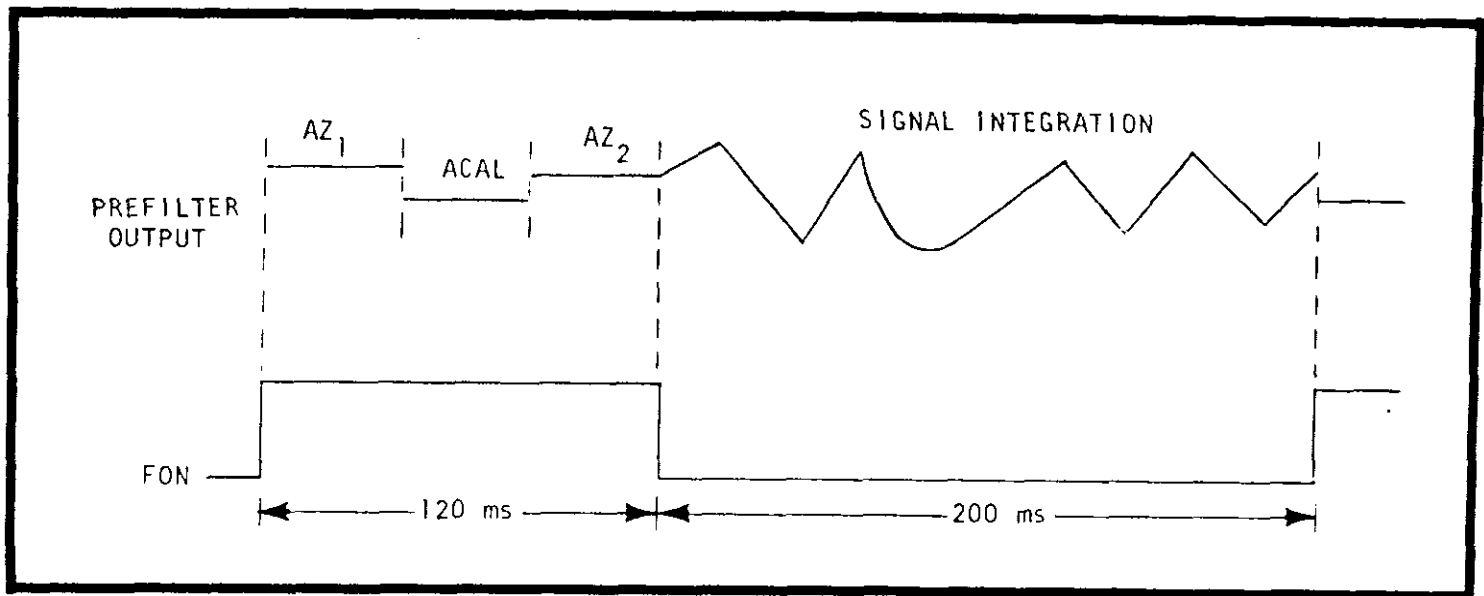

FIGURE 39. Waveform For A/D Calibration
- g) For the following adjustments refer to trace shown in Figure 39.